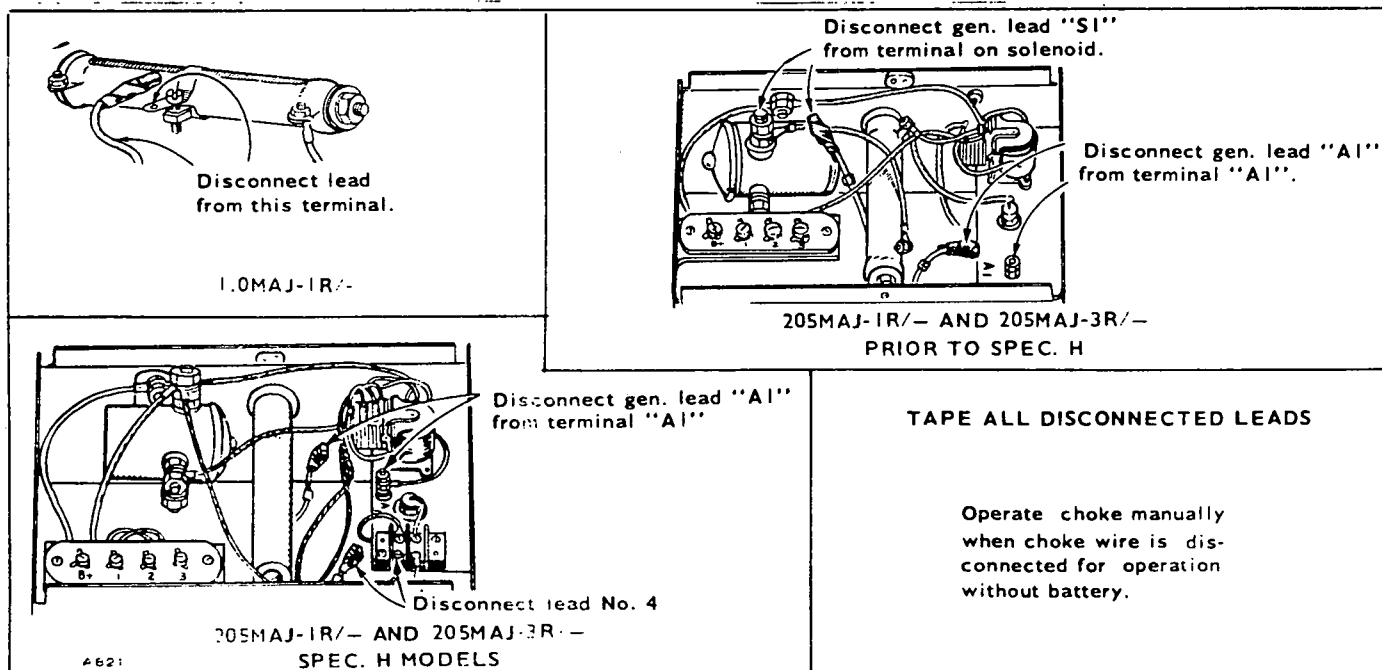

FIGURE 18. DISCONNECTING LEADS FOR MANUAL EMERGENCY STARTING
2. If the starting battery is disconnected, certain wires inside the control box *must* also be disconnected, depending upon the plant model (see Fig. 18).
- c. Mark the electric choke original setting (see Adjustment Section) and re-adjust for full open position. Operate the choke manually while the battery is disconnected (see Fig. 18).